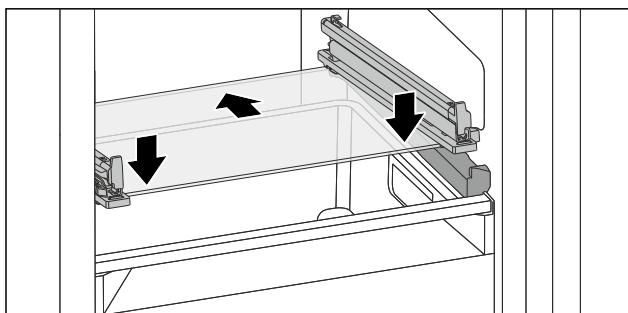

Fig. 108 Tilting drawer glass shelf
- ▶ Position glass shelf at an angle behind the stoppers. (see Fig. 108)